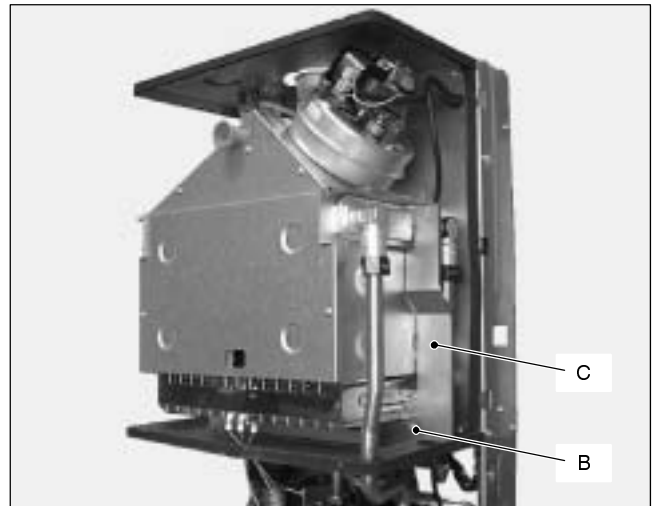

Fig. 76
- 1b For model M90.28S only, remove the screw *B* and the plate *C* (Fig. 76).